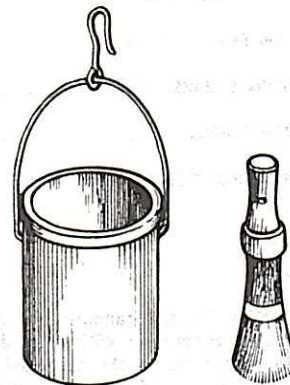

Fig. 1—Brush and Bucket for Applying Tree Paint
4.01 The B Soap Brush is a 1-inch brush which fits into and serves as a cover for B Soap Bucket tree paint or tree or limb cuts. The brush can be secured to the holder of the B Pole Pruning Saw for treating cuts that are not conveniently located for hand application. See Fig. 1.
5.01 The B Soap Bucket serves as an ideal container for asphalt tree paint. It is employed with the B Soap Brush. See Fig. 1.